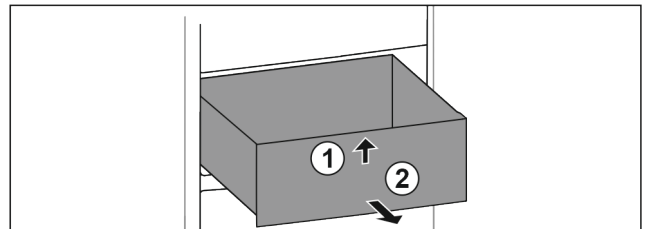

Fig. 62
- ▶ Lift up drawer at the front. Fig. 62 (1)
- ▶ Remove drawer to the front. Fig. 62 (2)